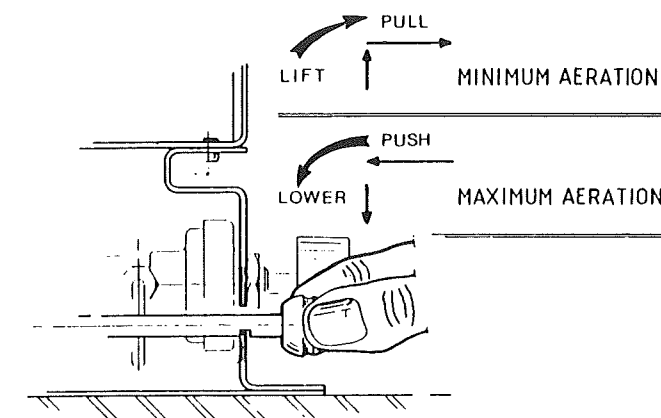

Figure 13
1. Allow appliance to fully warm up (at least 15 minutes) in the fully aerated position, control pushed in to the locked position. See figure 13.